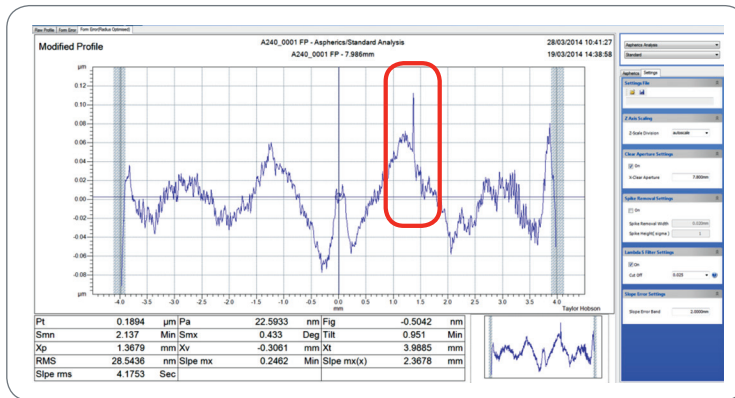

Figure 3: The analysed trace with a 0.025 mm filter applied
- 2 Apply a filter on the aspheric trace (Figure 3). This will also affect spikes.